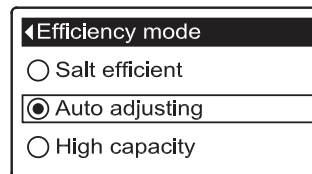

FIG. 75
- 8a. **Efficiency mode:** If the desired efficiency mode already has a black dot next to it (See Figure 75), go to Step 9. Otherwise, press the DOWN (▼) or UP (▲) buttons to scroll to the desired efficiency mode, then press SELECT (O) to choose it.